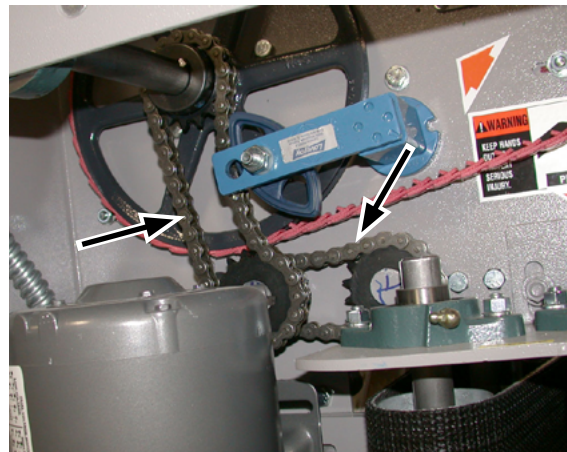

Figure 4-8: Drive chains in the right endframe.
3. Clean off old lubricant from the drive chains (Figure 4-8) and lightly lubricate the chain with a good quality SAE 90 grade oil.